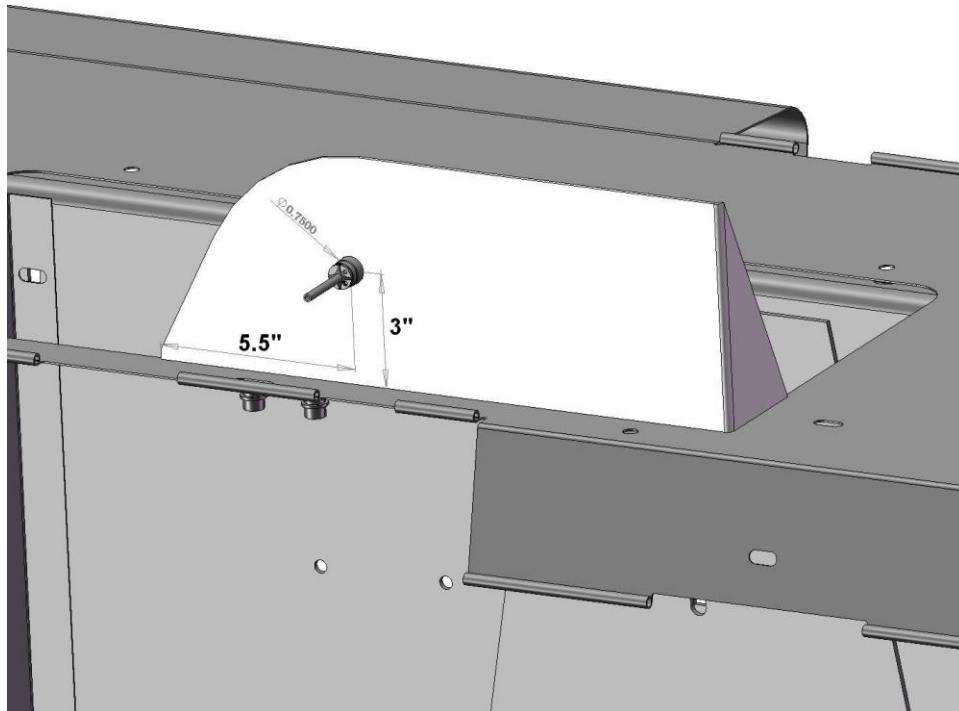
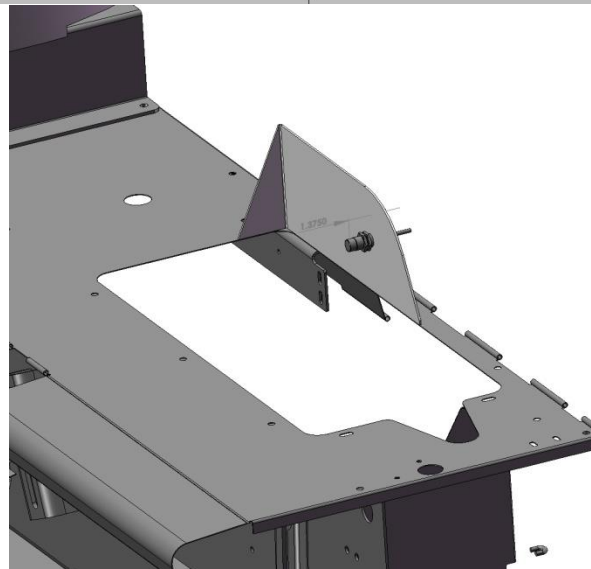

Figure 7
Figure 8
Locate the steel behind the gathering fork (Figure 7). Figure 7 shows the steel from the back of the baler, Figure 8 is the front-left view. Mark and drill the 3/4" (19mm) hole for the sensor to mount through. With the tractor turned off and the PTO disconnected from the tractor, rotate the baler fly wheel by hand until the gathering fork arm is directly in front of the 3/4" (19mm) hole. Install the sensor and position so that the end of the sensor is 1/4" (7mm) away from the fork. Tighten the nuts on both sides of the sensor after the adjustment.
Open the left access panel as shown in Figure 9. The end of the sensor (A) will be aligned with the bolt head (B). With the tractor turned off and the PTO disconnected from the tractor, rotate the balers flywheel so that the bolt head (B) is at its lowest position. Locate bracket 001-4648SC (C) and loosely install the sensor. Align the end of the sensor over the bolt head (B) and mark the two 3/8" (10mm) holes that will need to be drilled to mount the bracket (C). Install the bracket using two 5/16 x 1" bolts, flats, locks, and nuts. Close the access panel (Figure 8) and adjust the sensor so that it is 1/4" (7mm) away from the bolt head (B). Tighten the nuts on the sensor after the adjustment is made. Leave enough slack in the wire to allow the access door to function (Figure 10).